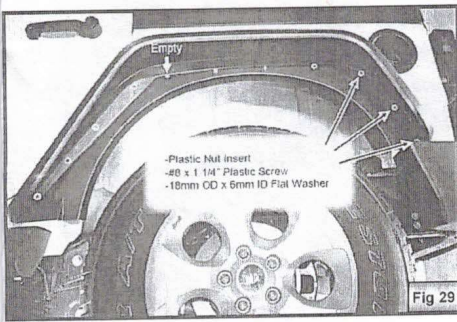

Fig 29
34. Fix the remaining (3) holes with (3) 8 x 1" screw and 18 mm OD x 6 mm ID flat washer (Figure 29). Don't tighten 35 at this time. Align the flares again and tighten all the hardware.